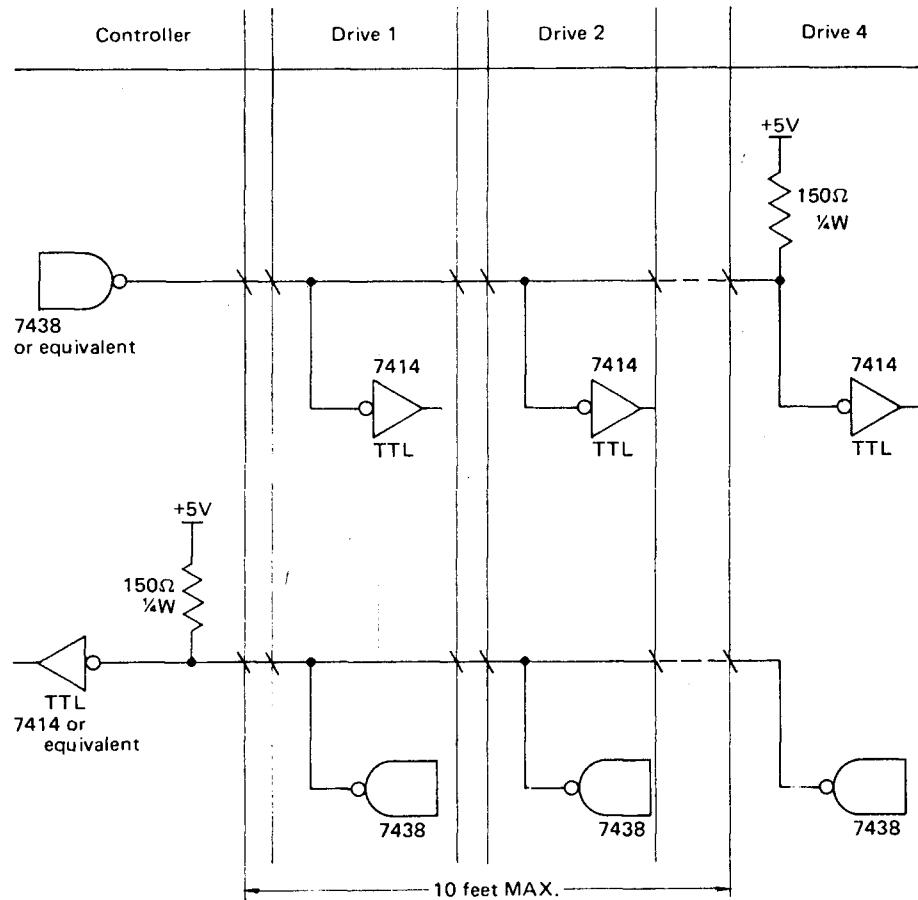

Fig. 3.2 Signal interface circuits
There are twelve (12) low active TTL input lines to YD-174. Ten (10) are standard and two (2) are user installable options. Each line has the following characteristics. Refer to section 3.1.4, Fig. 3.2 for the interface circuits.
Refer to Fig. 3.2 for the interface circuits.
Refer to Fig. 3.2 for the recommended interface circuits of the controller.